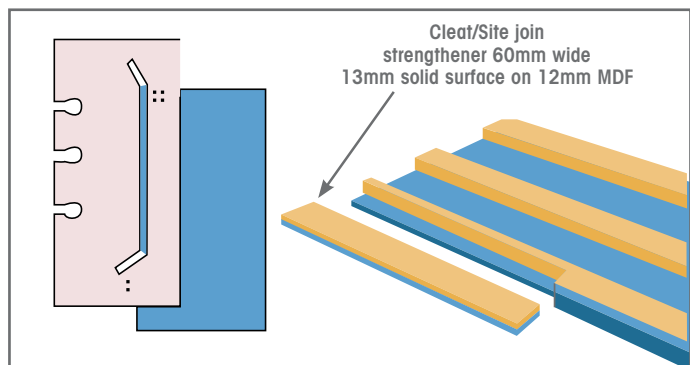

Fig. 7 Female Mason's Mitre Join section & Underside of Female Mason's Mitre after routing
- Align the mason's mitre template and clamp in position (see Fig. 7).